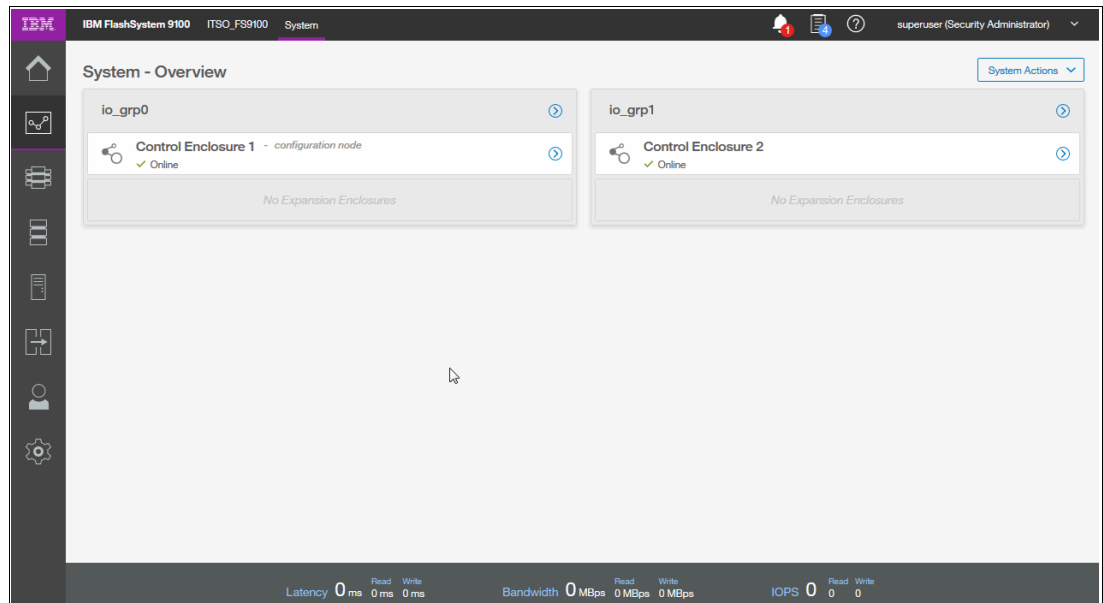

Figure 5-43 System - Overview Control Enclosures view
8. Navigate to **System - Overview** page to view details of Control Enclosures as shown in Figure 5-43 with an empty I/O Group.